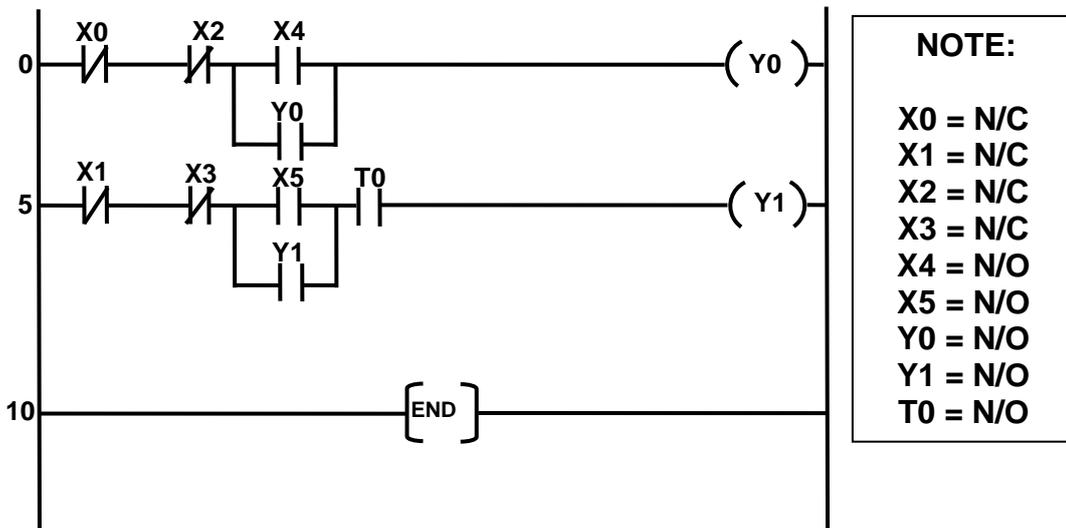

FIGURE 9.2: LADDER LOGIC PROGRAM FOR SEQUENCE CONTROL (11)
9.5 Draw the circuit diagram that represents the ladder logic program in FIGURE 9.2.